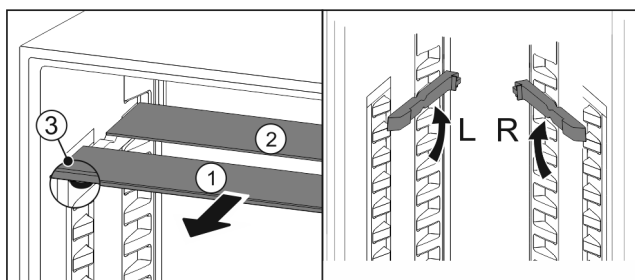

Fig. 123
- Pull the glass panels out Fig. 123 (1) from the front, one at a time.
- The glass panel Fig. 123 (1) and trim strip are at the front.
- The stops Fig. 123 (3) point down.